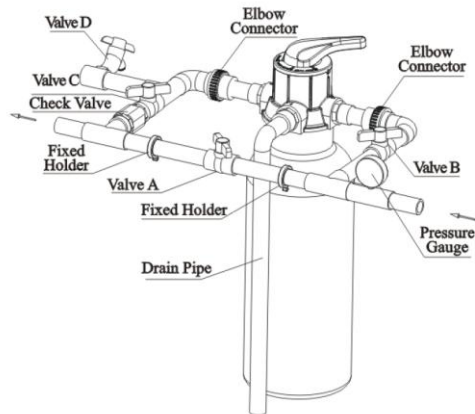

Figure 1-2
- As Figure1-2 shows, install a pressure gauge in water inlet.